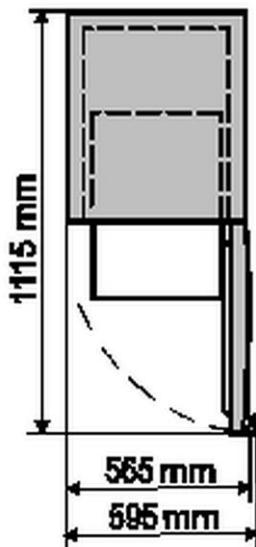

Fig. 3: Top view with doors of the appliance open
- If the appliance is set in a corner, a clearance of at least 60 mm must be left at the side (Fig. 3) so that the appliance door can be opened fully with the handle.